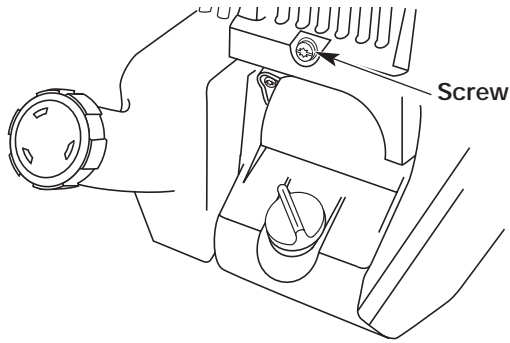

Fig. 29
3. Remove the screw on back of the engine cover (Fig. 29).